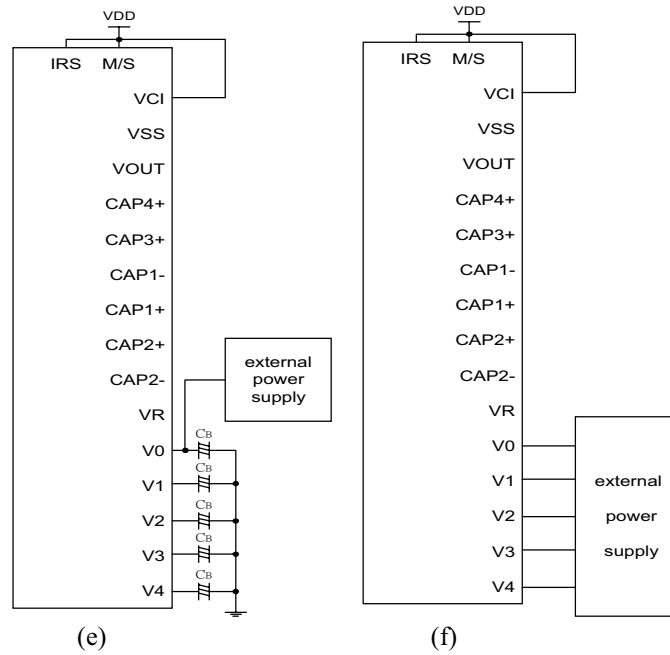

Fig. 12
1. When used all of the step-up circuit, voltage regulating circuit and V/F circuit, and the voltage regulator internal resistor is used. Fig 12-(a)
2. When used all of the step-up circuit, voltage regulating circuit and V/F circuit, and the voltage regulator internal resistor is not used. Fig 12-(b).
3. When the voltage regulator circuit, V/F circuit and the  $V_0$  voltage regulator internal resistor are used. Fig 12-(c).
5. When the V/F circuit is used. Fig 12-(e)
6. When not using any internal LCD power supply circuit. Fig 12-(f)